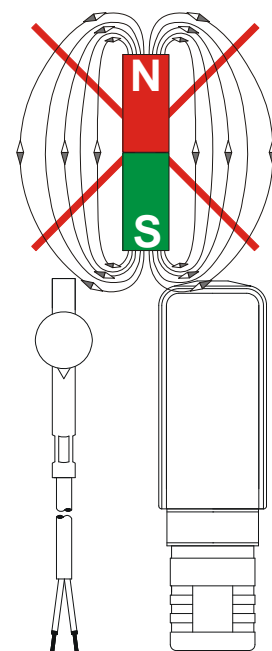

Fig. 4
- ✚ Make sure that there are no external magnetic fields in the immediate vicinity of the flow switch, since these can impair device functioning (→ Fig. 4).